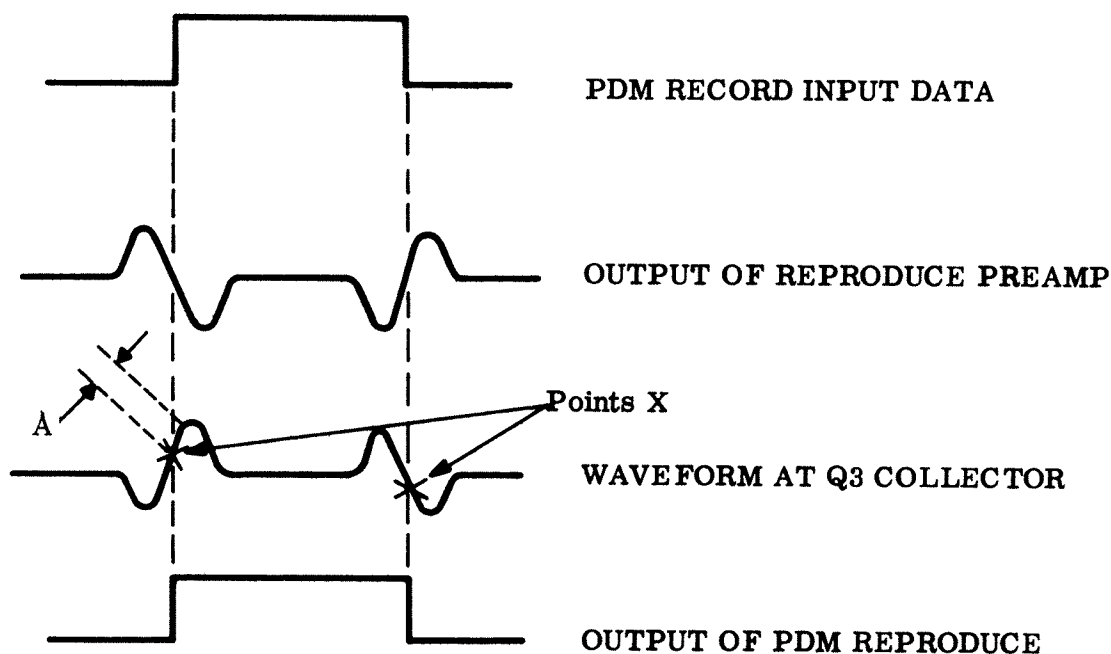

Figure 5-21 Idealized Waveforms
emitter resistor R17, Q6 also receives this pulse and amplifies it 180° out of phase with respect to Q3. Data logic is restored by the voltage passing through zero thus causing switching of the bistable multivibrator at points X. (See Figure 5-21.) The outputs of transistors Q3 and Q6 are fed to a multivibrator through resistors R9 and R20 respectively.
5.143 Resistor R16 controls the differential amplifier balance so that switching of the bistable multivibrator is symmetrical about the signal base line. The adjustment range of R16 is approximately that of "A" in Figure 5-21.
5.144 BISTABLE MULTIVIBRATOR. The bistable multivibrator reconstructs the recorded waveform into a rectangular pulse comparable to the original pulse applied to the record amplifier. A positive-going voltage, (point X, see Figure 5-21), from the collector of Q3 causes transistor Q4 to saturate thereby producing a negative voltage at its collector. The operation of transistor Q5 is the reverse of Q4, thereby producing a positive voltage at its collector. This operation produces a positive-going output waveform at the base of Q9 whenever the input pulse is positive and all jumper plugs are in the 0° position. A negative output polarity can be achieved by placing the jumper plugs to the positions shown in Table 5-5. The multivibrator is automatically reset by the pulse return circuit should loss of the second half of the input pulse occur.